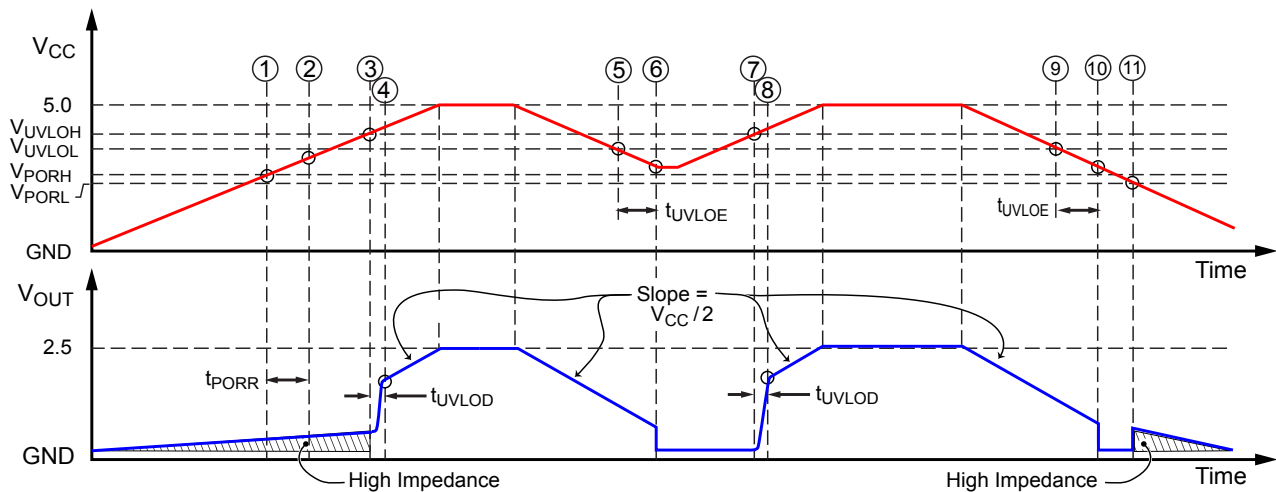
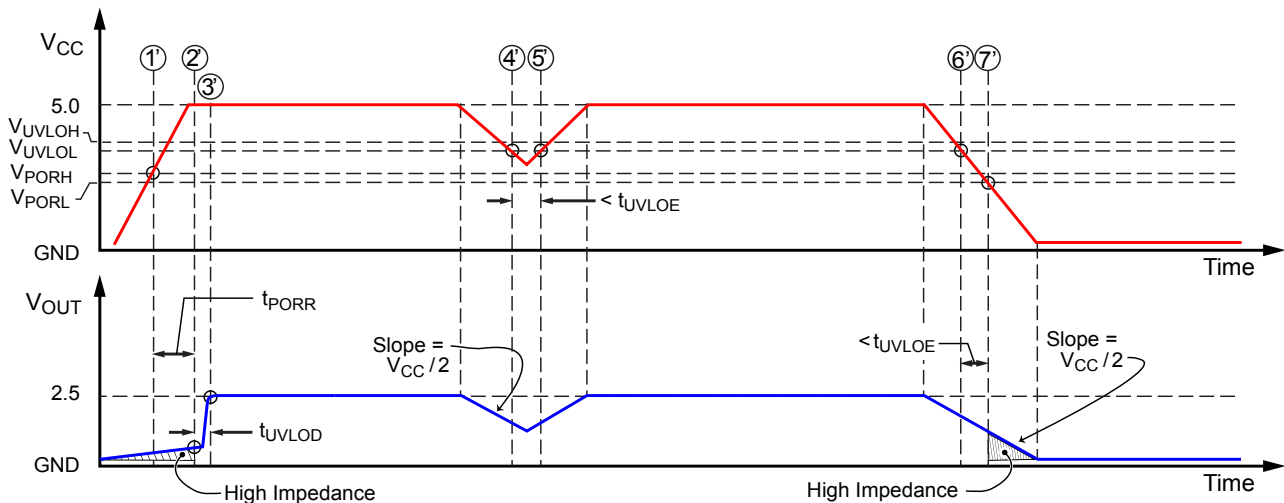

Figure 1: POR and UVLO Operation – Slow Rise Time case
Figure 2: POR and UVLO Operation – Fast Rise Time case
- **Power-Up** At power-up, as V_{CC} ramps up, the output is in a high-impedance state. When V_{CC} crosses V_{PORH} (location [1] in Figure 1 and [1'] in Figure 2), the POR Release counter starts counting for t_{PORR} . At this point, if V_{CC} exceeds V_{UVLOH} [2'], the output will go to $V_{CC}/2$ after $t_{UVLOD} = 14 \mu s$ [3']. If